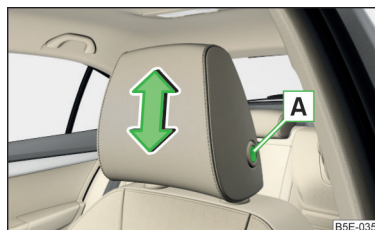

Fig. 66
- Press the locking button **A** » Fig. 66 and hold and move support in the desired direction.